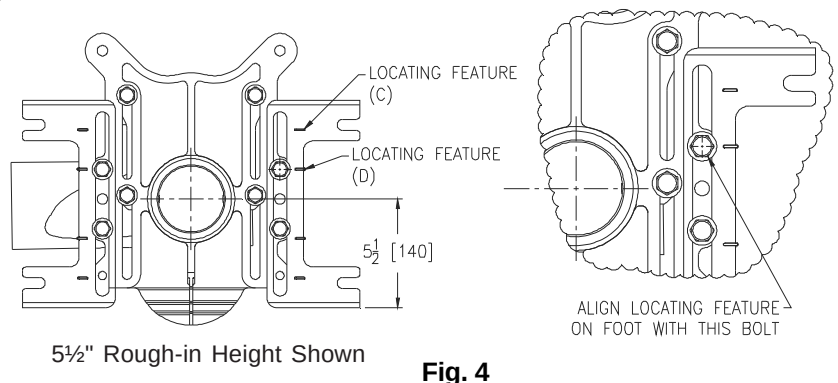

Fig. 4
4. Factory faceplate/feet assembly is set for a 5 ½" rough-in height. Locating featuring C (See Fig. 4) on each foot identifies at 7 ½" rough-in height, commonly used for ADA applications. To adjust the rough-in height, loosen the feet bolts and set the top two bolts to the desired height (adding additional height for tiling where required). For the highest position, swap bolts from A to B location. See Fig. 4a. Secure bolts using wrench (25-35 lb-ft of torque).